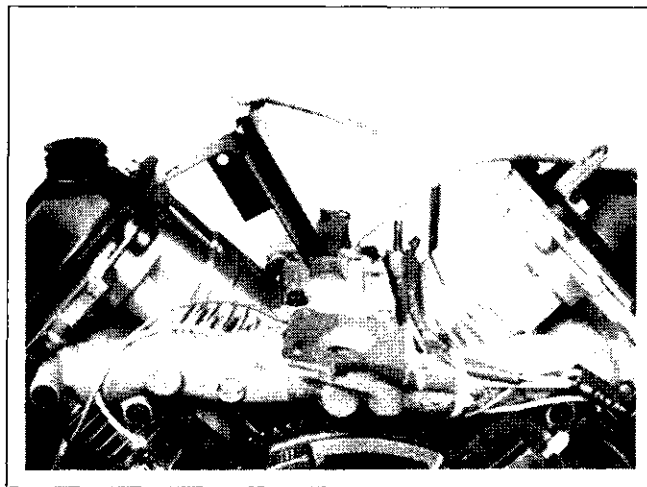

Figure 9-32. Removing Inner Baffles.
2. Remove both inner baffles. See Figure 9-32.
3. Remove the two remaining screws holding the breather cover to the crankcase. See Figure 9-32.